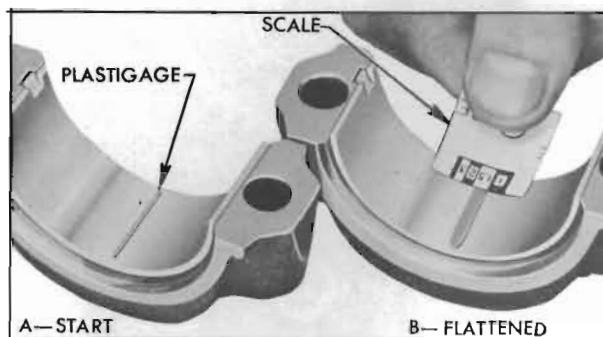

Figure 2-30—Checking Bearing Clearance With Plastigage
2. Place a piece of Plastigage lengthwise along the bottom center of the lower bearing shell (fig. 2-30, view A), then install cap with shell and tighten bolt nuts to 40-45 ft. lbs. torque. NOTE: *The rib on edge of cap and the conical boss on web of rod must be toward rear of engine on all rods in right bank or toward front of engine in left bank.*